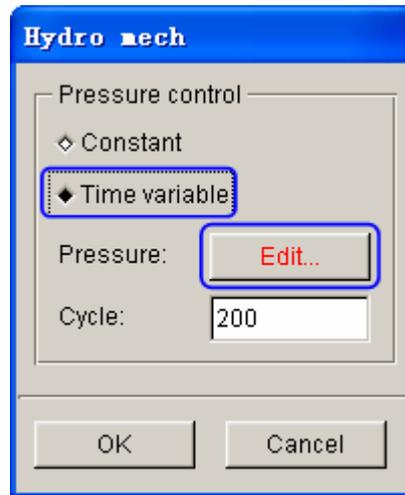

Figure 7.46 Hydro mech dialog box
9. Select **Time variable** option as pressure control in HYDRO MECH dialog box illustrated in Figure 7.46.